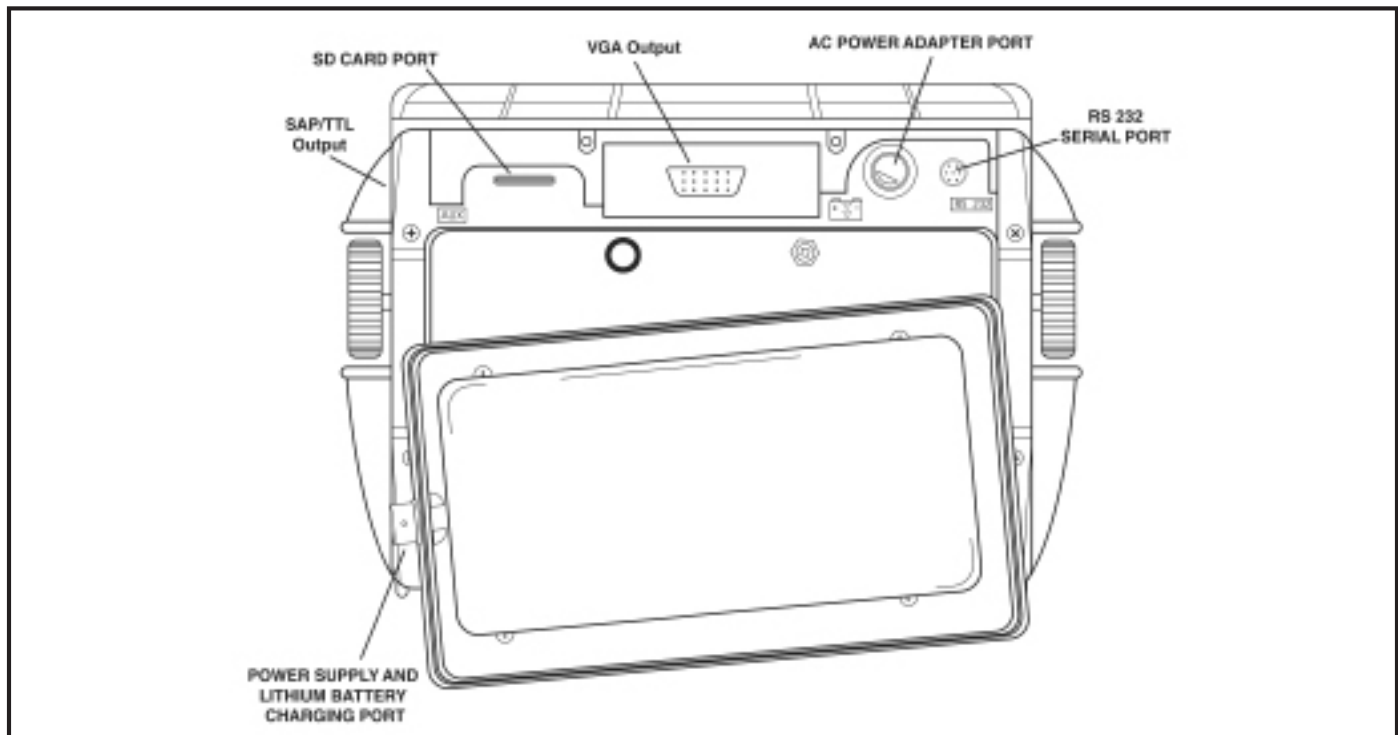

Figure 36: Installation of standard Lithium battery pack. Note the location of the Power Adapter Port and Lithium battery pack on-board charging port.
The instrument operates on a Lithium battery pack located in the rear of its housing, or by using the power adapter (Figure 36 below). To remove the battery compartment cover, first remove the four thumb-screws. The standard Lithium battery pack will provide maximum operating life between charging.
**Note:** By connecting the optional Power Adapter, the instrument can be operated using an AC power source. This adapter is connected to the instrument through the Power Adapter Port shown in Figure 36.